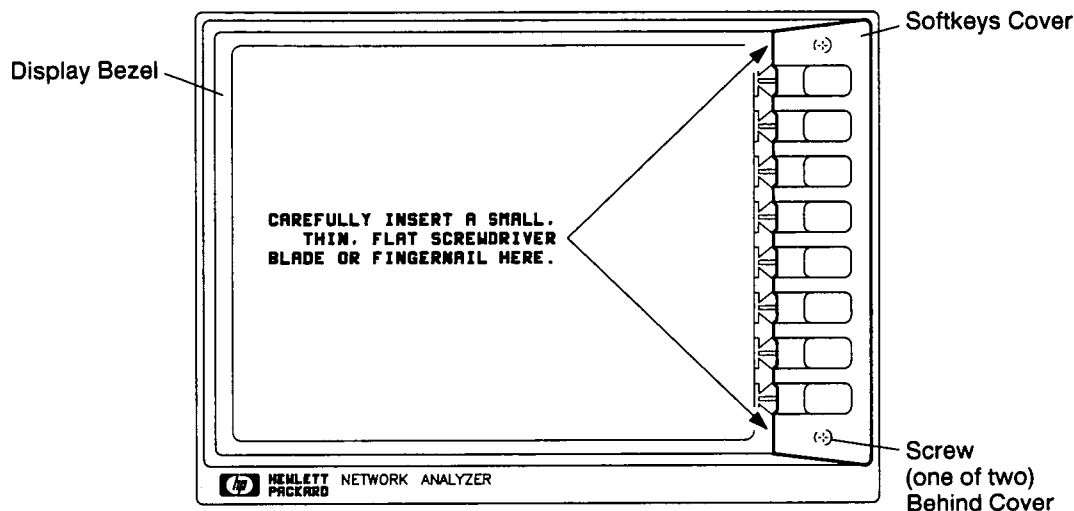

Figure 1. Removing the Glass Filter
2. Remove the softkeys cover (a plastic cover through which the front panel softkeys protrude): *carefully* insert a thin, flat screwdriver blade (or your fingernail) between the upper left corner of the softkeys cover and the glass filter (see Figure 1). Be extremely careful not to scratch or break the glass. Carefully pull the cover forward and off.